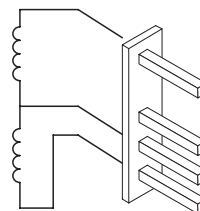

Figure 9.16
- 3 Measure the electrical resistance between the connector pins of the on-off operators as illustrated in Figure 9.16.